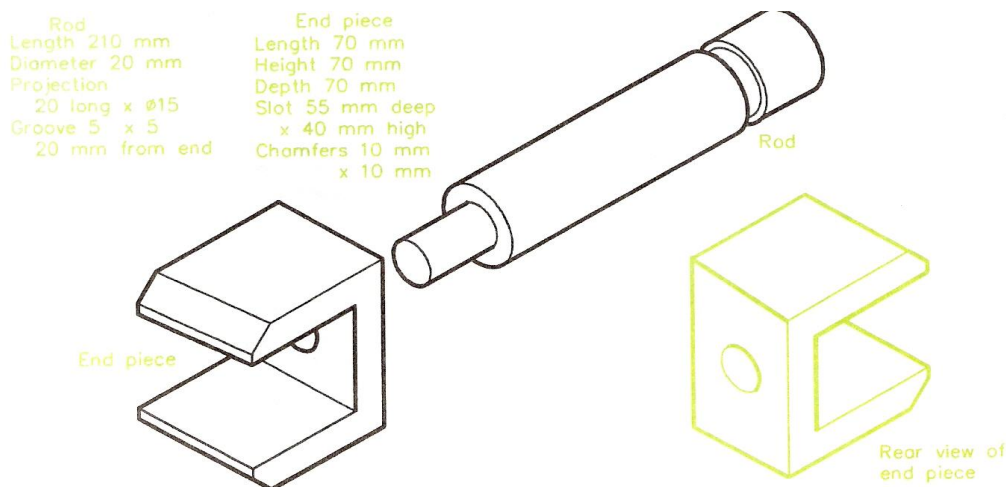

Figure 21 - Exploded Isometric Drawing
Figure 21 is an exploded isometric drawing of a fork end, showing the two parts – its end piece and its rod in an exploded position. The rod is shown pulled out from the END along an isometric 30 degree axis. A rear view of the end piece is included to show that the rod fits into a hole in its back face. To construct the drawing:
1. Working to the sizes given with Figure 21, draw the end piece, remembering that the chamfer sizes must be taken along the isometric lines.